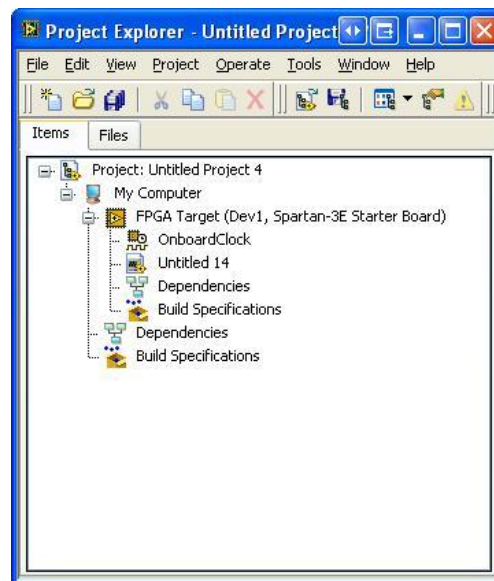

Figure 10: Create New FPGA VI
4. Your new project should now contain the Spartan-3E Starter Board as a target. To create an FPGA VI, right-click the name **FPGA target (Dev1, Spartan-3E Starter Board)** and select **New»VI**. Your project should look similar to Figure 10. Note that your new VI is under the FPGA tree. This indicates that the VI belongs to the FPGA target and not the host computer. This VI will be compiled to VHDL code and then downloaded via USB to the Spartan-3E target.